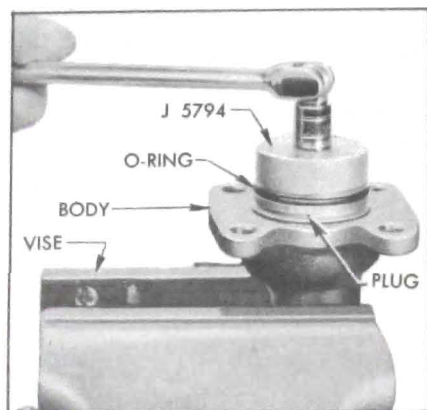

Figure 9-23—Removing Cylinder Plug
12. Unscrew and remove cylinder plug from hydraulic cylinder body, using Spanner Wrench J 5794 (fig. 9-23), then remove secondary cup expander, secondary cup, secondary cup support, vacuum cup retainer, and vacuum cup from cylinder plug assembly.
5. Center the secondary cup retainer on piston bearing and screw cylinder plug down into cylinder body, using care not to damage O-ring, secondary cup, or expander. Tighten plug firmly, using Spanner Wrench J 5794 (fig. 9-23).